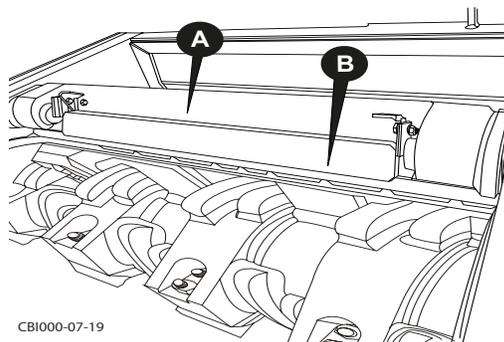

Figure 6.18 - Remove Grate Liner
3. **Remove Bar** - Remove the bar (Figure 6.18 / B) that secures the grate liner in place.
5. **Remove Grate Frame** - Use a crane or excavator to lift the grate frame upwards (Figure 6.18 / A) until it is directly above the rotor. Lift the grate frame until it is clear and out of the hog box.